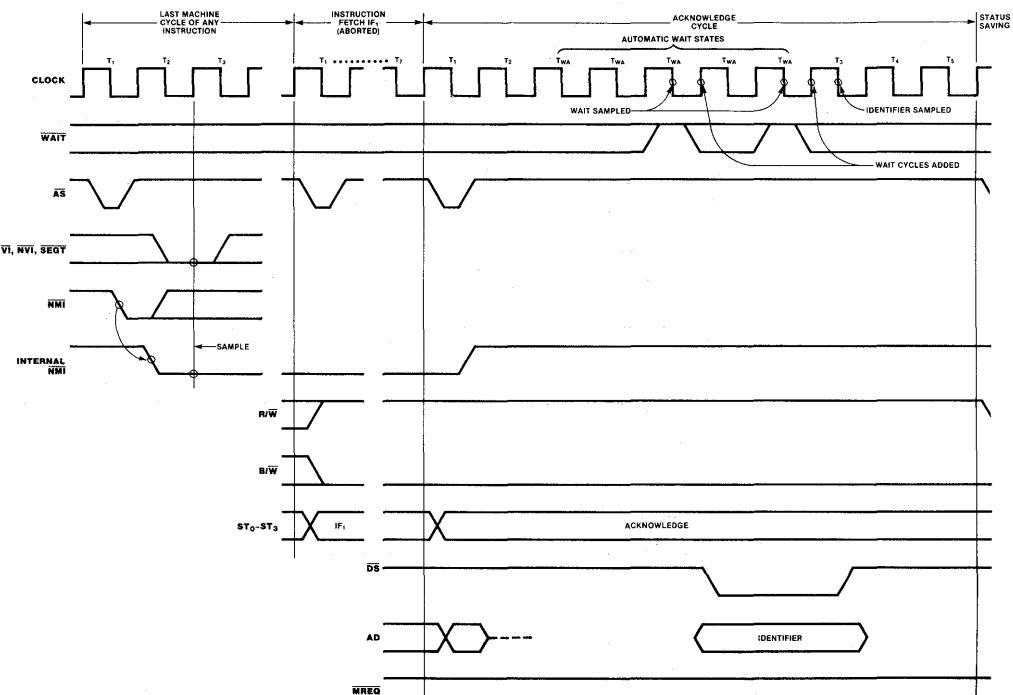

Figure 9-6. Interrupt and Segment Trap Request and Acknowledge Transition.
These transactions are eight clock cycles long at a minimum (as shown in Figure 9.6), having five automatic WAIT cycles. The WAIT cycles are used to give the interrupt priority daisy chain (or other priority resolution device) time to settle before the identifier word is read. (Consult the *Z-Bus Summary* for more information on the operation of the priority daisy-chain.)
As shown in Figure 9.6, there are two places where WAIT is sampled and thus a WAIT cycle may be inserted. The first serves to delay the falling edge of DS to allow the daisy chain a longer time to settle, and the second serves to delay the point at which data is read.
9.6.1 Interrupt/Trap Request. The Z8000 CPU supports three interrupts and one external trap (segment trap) as shown in Figure 9.6. The Interrupt Request line (**INT**) of a device that is capable of generating an interrupt may be tied to any of the three Z8000 interrupt pins (**NMI**, **NVI**, **VI**). Several devices can be connected to one pin, the devices arranged in a priority daisy chain (see the *Z-Bus Summary*). The segment trap pin (**SEGT**) is activated by the memory management hardware. The CPU uses the same protocol for handling requests on any of these pins. Here is the sequence of events that is followed: